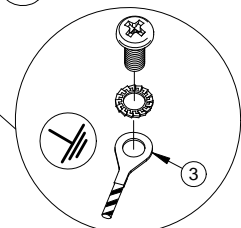

Fig. 18
6. Remove earth screw and washer and assemble and secure with conductor eyelet in position as shown in Fig. 18.